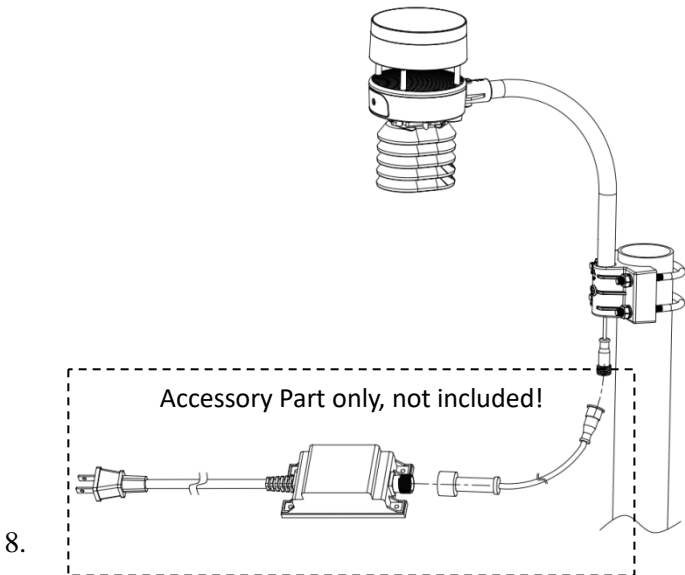

Figure 9: Sensor package mounting diagram 6-7
7. If optional extension cord is added, connect extension cord and then connector AC adaptor as Figure 9 show: